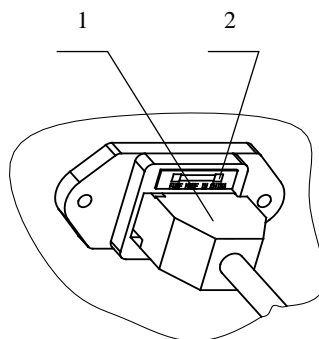

Figure 12
3. Disconnect the power plug, take out the fuse holder. Changing the fuse. Install holder again, see figure 12.